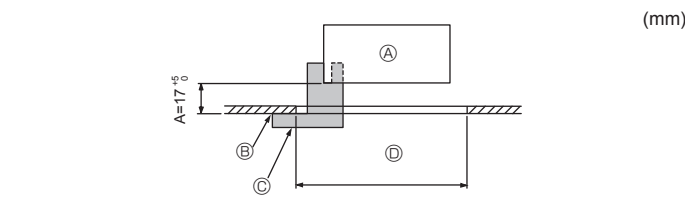
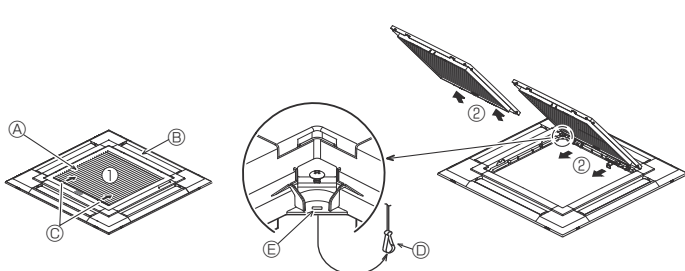
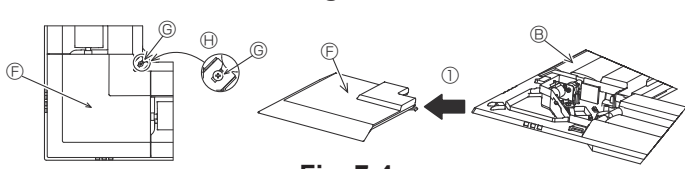

Fig. 7-2
Fig. 7-3
Fig. 7-4
①	Grille	1	950 × 950 (mm)
②	Installation gauge	1	(Divided into 4 parts)
③	Screw (4 × 16)	1	For PLP-6EAE, PLP-6EAELE, PLP-6EALME2
④	i-see Sensor corner panel	1	For PLP-6EAE, PLP-6EAELE, PLP-6EALME2
⑤	Wireless remote controller	1	For PLP-6EALM2, PLP-6EALME2
⑥	Remote controller holder	1	Included when equipped with the wireless remote controller.
⑦	LR6 AA batteries	2	Included when equipped with the wireless remote controller.
⑧	3.5 × 16 tapping screws	2	Included when equipped with the wireless remote controller.
7.2. Preparing to attach the grille (Fig. 7-2)
- With the gauge ② supplied with this kit, adjust and check the positioning of the main unit relative to the ceiling surface. If the main unit is not properly positioned relative to the ceiling surface, it may allow air leaks or cause condensation to collect.
- C Installation gauge ② (inserted into the main unit)
7.2.1. Removing the intake grille (Fig. 7-3)
- Slide the levers in the direction indicated by the arrows ① to open the intake grille.
- With the intake grille in the "open" position, remove the hinge of the intake grille from the grille as indicated by the arrows ②.
7.2.2. Removing the corner panel (Fig. 7-4)
- Loose the 4 screws on the corner. Slide the corner panel in the direction of the arrow ① in the figure and remove the corner panel.
[Fig. 7-3] [Fig. 7-4]